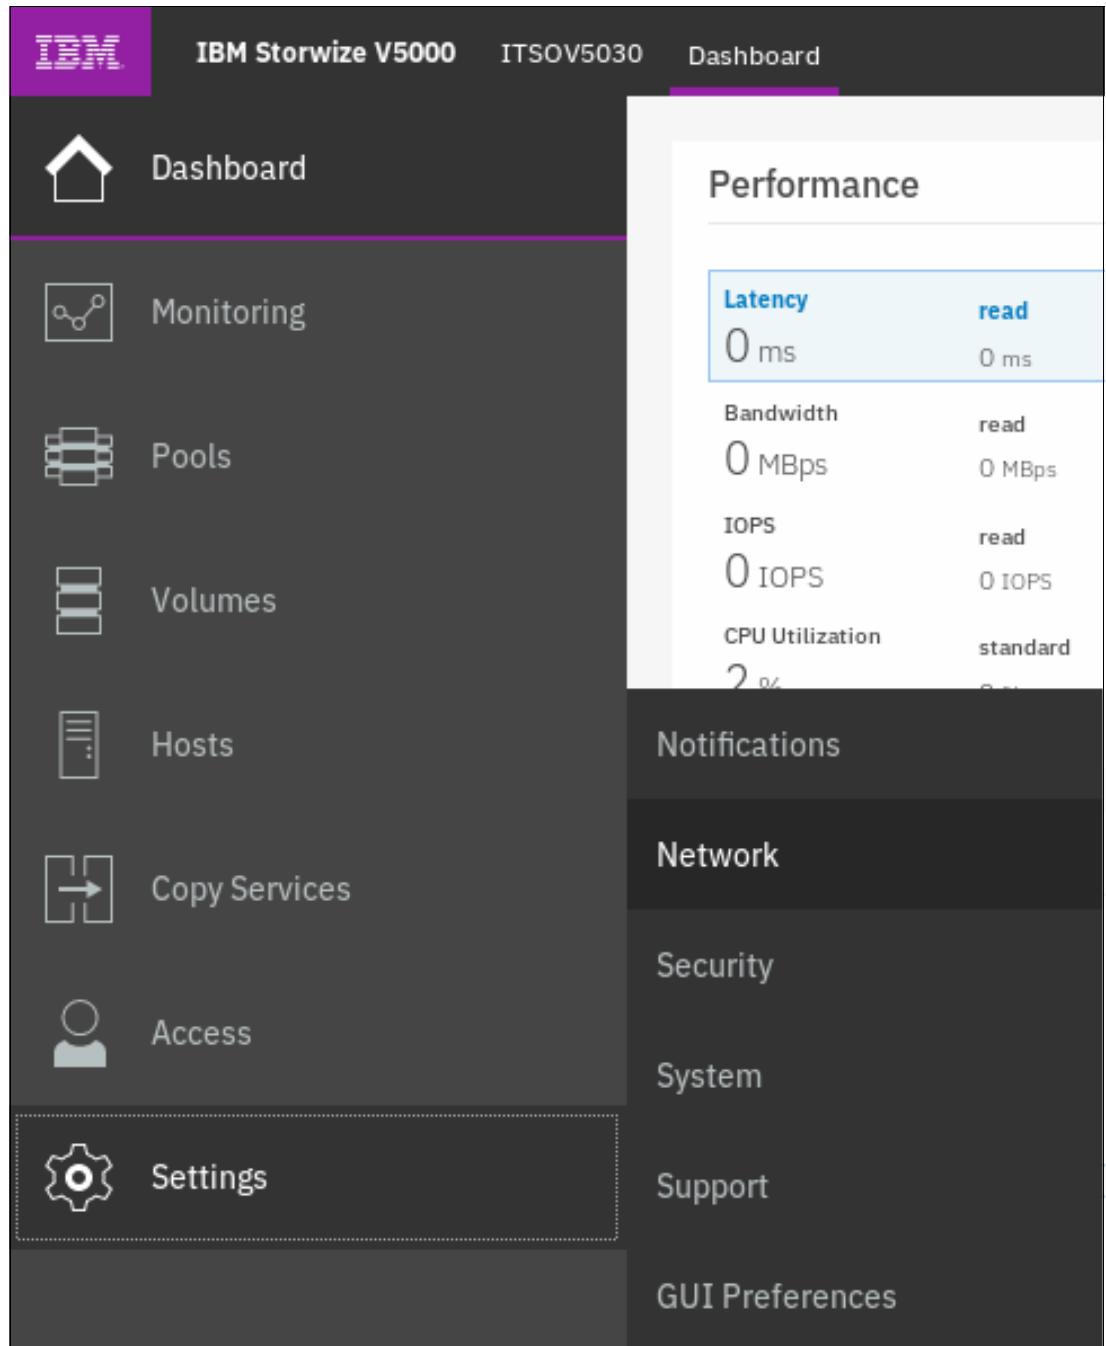

Figure 5-51 Opening the network settings view
1. Go to **Settings** → **Network**, as shown in Figure 5-51.